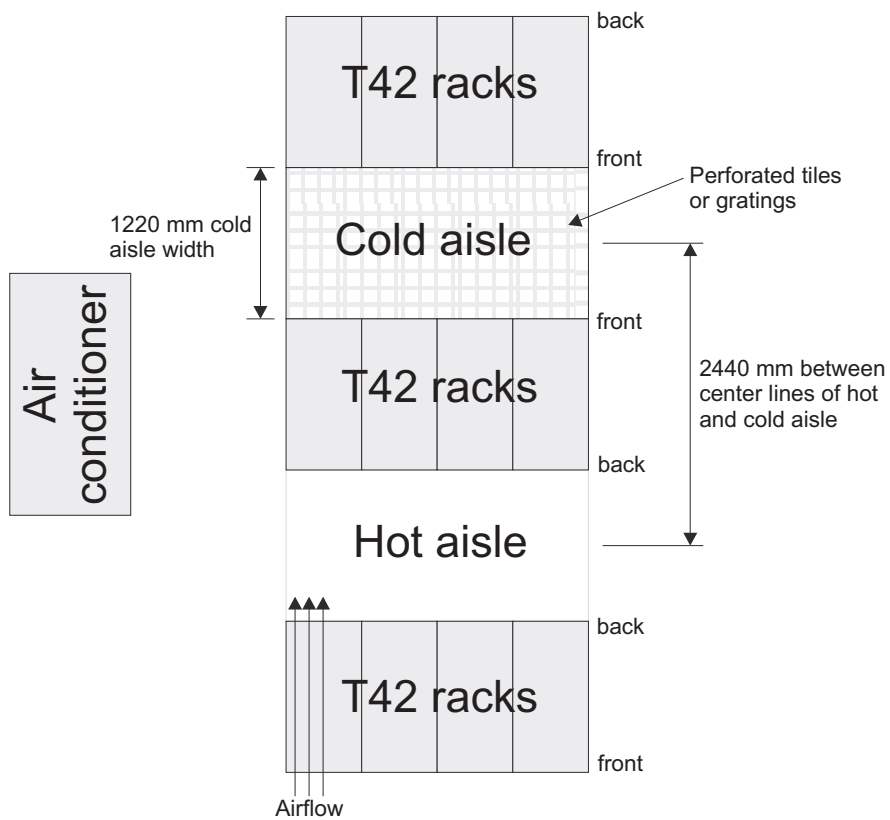

Figure 10. Example of cold aisle/hot aisle rack configuration
- Air enters at the front of the rack and leaves at the back. To prevent the air that is leaving the rack from entering the intake of another piece of equipment, you must position the racks in alternate rows, back-to-back and front-to-front. This arrangement is known as *cold aisle and hot aisle* and is shown in Figure 10 on page 20.